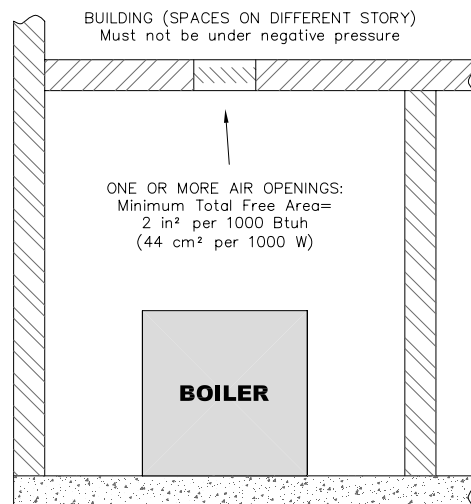

Figure 1.2: Air Openings – All Air from Indoors on Different Floors
b. **Combining spaces on different floors:** Provide one or more permanent openings communicating with additional spaces that have a total minimum free area of 2 in² per 1000 Btu/hr (44 cm² per 1000 W) of total input rating of all equipment. See Figure 1.2 for an illustration of this arrangement.